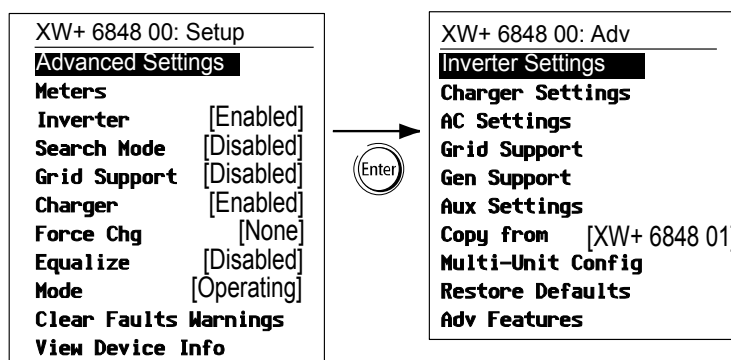

Figure 3-2 Selecting Advanced Settings
- From the **Setup** menu, with **Basic Settings** or **Advanced Settings** highlighted, press **Enter**. See Figure 3-2.